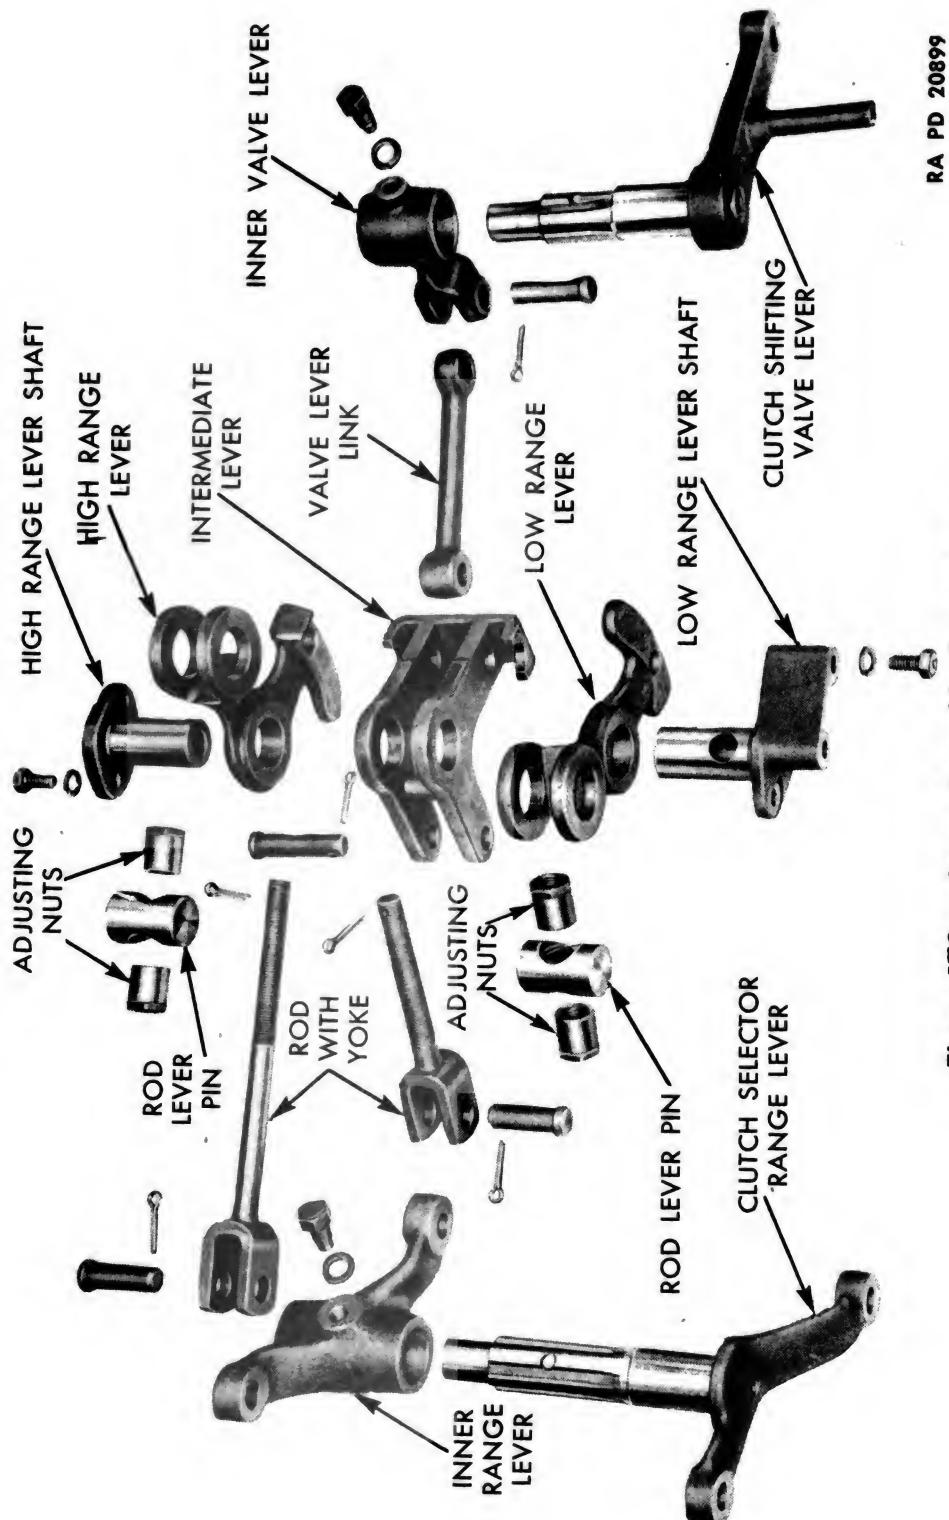

Figure 170 — Lever Assembly Components
(14) **REMOVE INNER VALVE LEVER** (fig. 170). Remove cotter pin and pin attaching inner valve lever to valve lever link. Remove lever.
(17) **REMOVE RODS WITH YOKES** (fig. 170). Remove one cotter pin and adjusting nut connecting high range lever to rod. Pull rod from rod lever pin. Remove one cotter pin and adjusting nut connecting low range lever to rod. Pull rod from rod lever pin.
- (1) **INSTALL LOWER ROD WITH YOKE** (fig. 170). Place rod with yoke and one adjusting nut through rod lever pin in low range lever, and attach with adjusting nut and cotter pin, leaving adjusting nuts loose.
- (2) **INSTALL UPPER ROD WITH YOKE** (fig. 170). Place rod with yoke and one adjusting nut through rod lever pin in high-range lever, and attach with adjusting nut and cotter pin, leaving adjusting nuts loose.
- (3) **INSTALL INNER RANGE LEVER** (fig. 170). Attach yoke end of lower rod to lower arm of range lever with pin and cotter pin. Attach yoke end of upper rod to upper arm of range lever with pin and cotter pin.
(4) **INSTALL INTERMEDIATE LEVER** (fig. 170). Place intermediate lever between high and low-range levers. Install range shifting lever pin through holes in high-range lever, intermediate lever, and low-range lever. Place range shifting levers over recessed section of pin within the intermediate lever.
(5) **INSTALL INNER VALVE LEVER** (fig. 170). Attach inner valve lever to valve lever link with pin and cotter pin. Attach link to intermediate lever lower arm with pin and cotter pin.